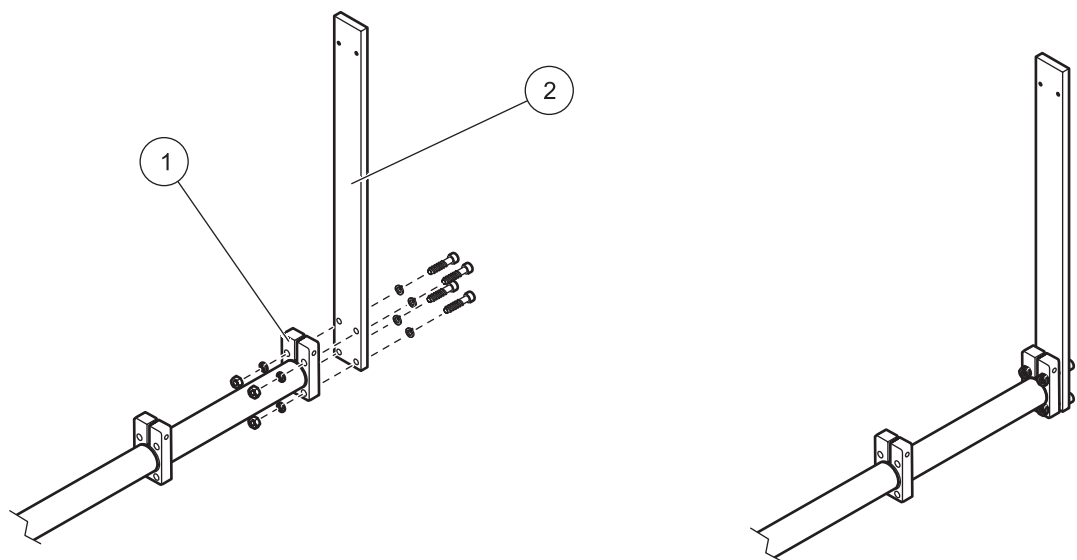

Figure 9 Fitting the mounting lug
5. Bolt the fastening lug to the clamp on the end of the supporting pipe using four M8 x 40 mm socket head cap screws, washers, spring washers and nuts (Figure 9 on page 8).